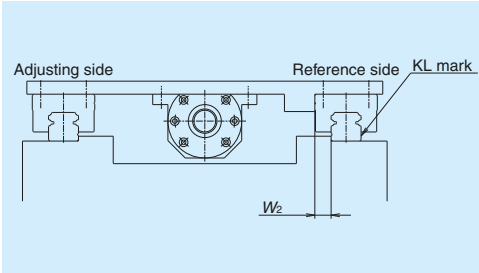

Fig. 10.2 Most common setting of the reference side rail
- When the datum surfaces of the reference side rail and slides are pressed to their mounting datum surfaces respectively, the variation of distance (mounting width W_2 or W_3) between the datum surfaces of the rails and that of the slides must be a minimum and therefore, it is specified as the standard. (**Figs. 10.2 and 10.3**)